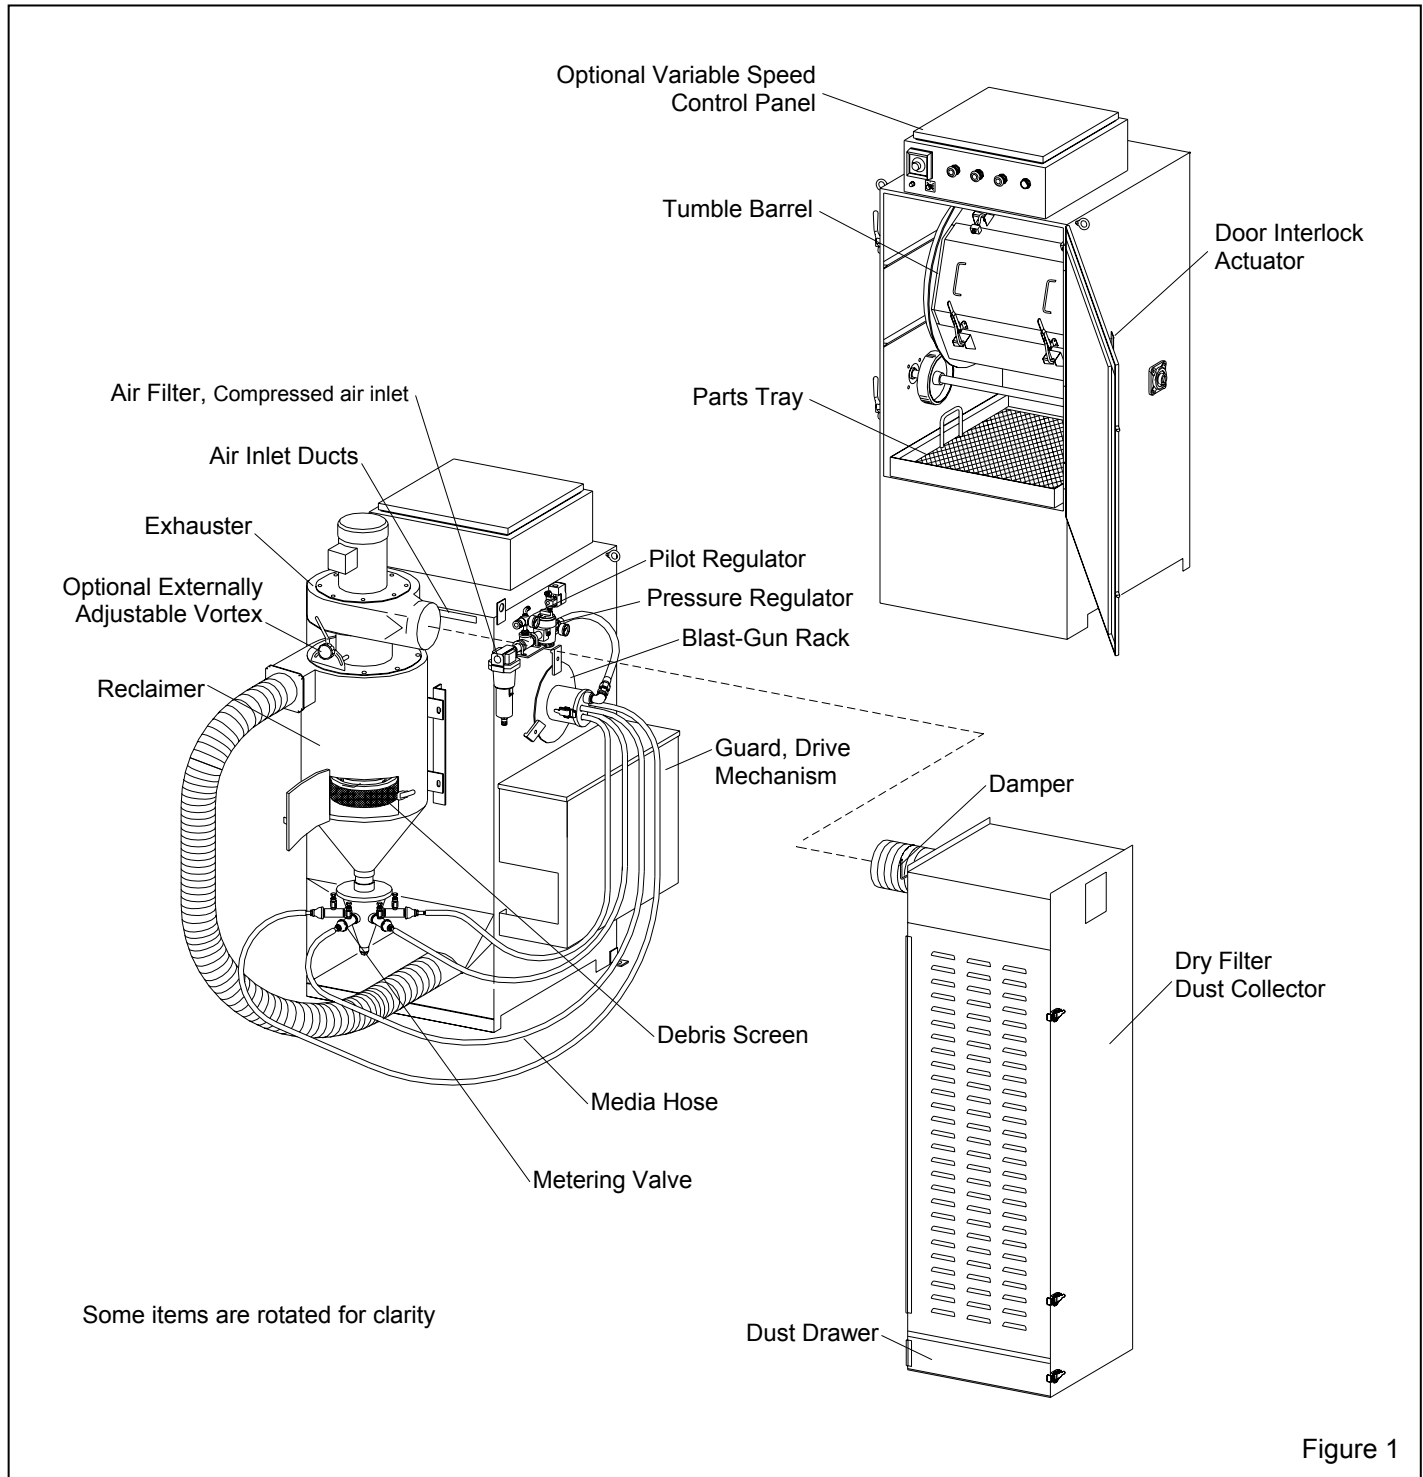
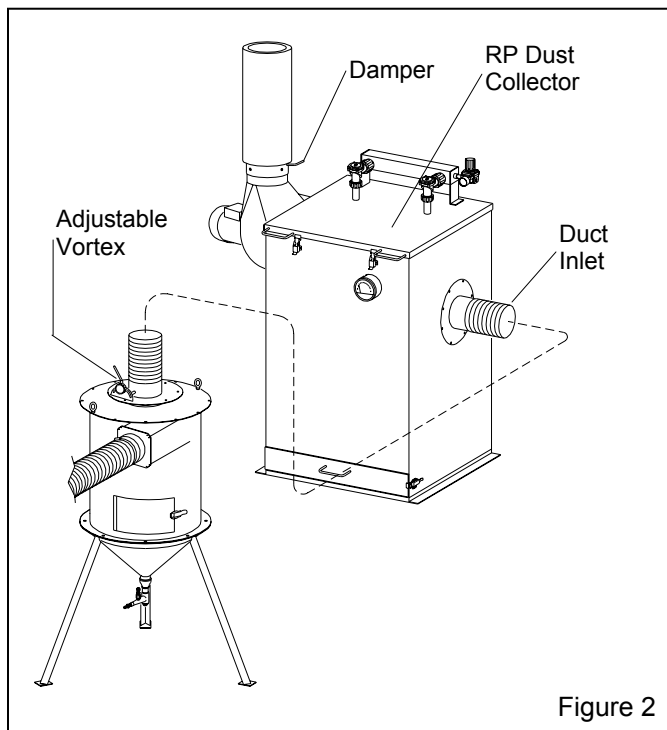

Figure 1
Figure 2
See Figure 1 for arrangement of components with a dry filter. The model shown is a 164 with a 600 cfm reclaimer and dry filter. Figure 2 shows a free standing 900 cfm reclaimer connected to a reverse-pulse dust collector.
2.1.1 See Figure 1 (and Figure 2 for optional reverse-pulse collector) for the general arrangement. Place all components in a convenient location where compressed air and electrical service are available. The cabinet location must comply with OSHA and local safety codes. Allow for full access to all doors and service areas, and for efficient handling of parts. Provide enough clearance in front of the dust collector to remove the dust drawer without tipping. Place free-standing reclaimers directly behind the cabinet with hose connections toward the cabinet with as few bends as possible. Determine the best location, and position all units before final assembly.